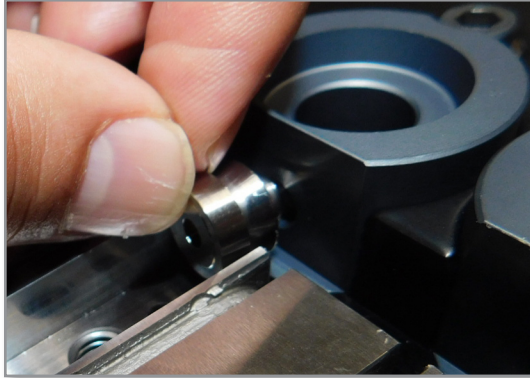

Figure 5-101 Install gate seal
2. Install the gate seal into the cavity insert. See Figure 5-101.